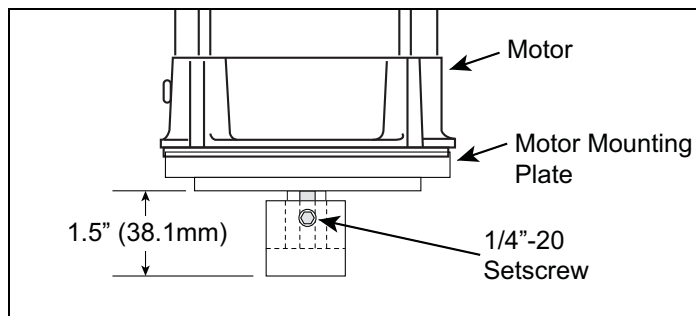

Figure 14. Positioning Motor Coupling On Motor Shaft
3. Remove the spring clip that retains the shaft keyway located on the RJ Motor shaft. Insert the Motor Coupling onto the RJ Motor Shaft aligning the keyway with the Motor Coupling keyway slot. Position the end of the Coupling 1.5 inches from the Mounting Adapter as shown in Figure 14. Secure the Coupling by tightening the 1/4"-20 setscrew on the side of the Coupling to 5 ft-lb (6.8 N•m).